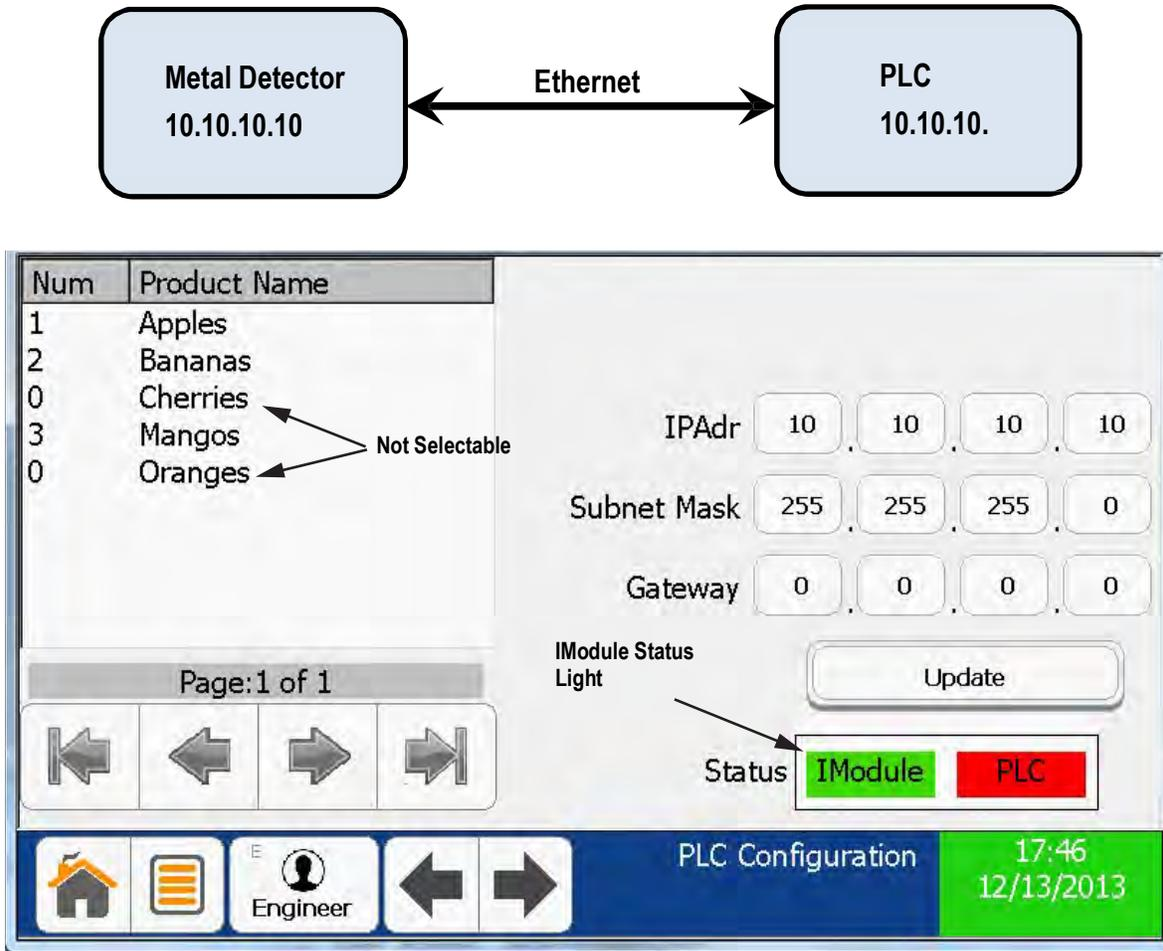

Figure 5-2. Ethernet IP Interface
3. Verify that the *IModule* status light is green. See Figure 5-2.